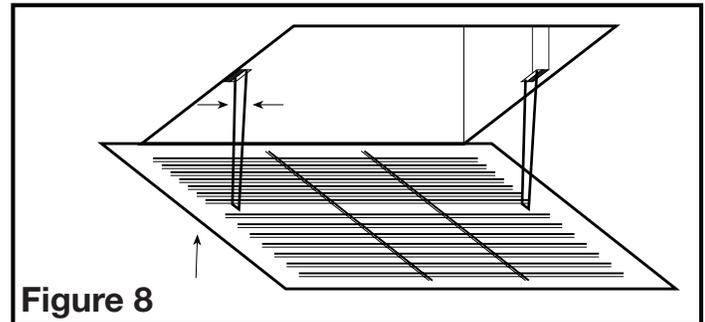

Figure 8
2. Install the grill into the inlets by squeezing the two ends of the springs together and installing them up into the slots of the fan. Push the grill up into position (**Figure 8**).